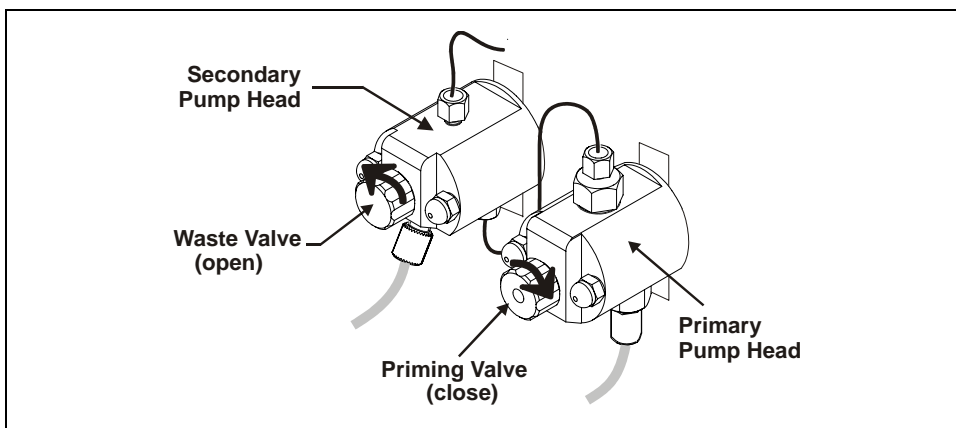

Figure 38. Priming the Pump
1. Check that the priming valve on the primary pump head is closed (see Figure 38).
2. Open the waste valve on the secondary pump head by turning the knob one-quarter to one-half turn counterclockwise (see Figure 38). Opening the valve directs the eluent flow path to waste and eliminates backpressure.